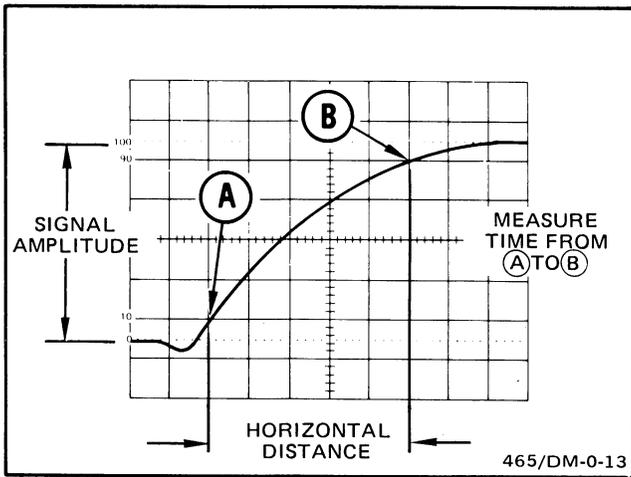

Figure 16. Rise time.
Rise-time measurements use the same methods as time duration, except that the measurements are made between the 10% and 90% points on the leading edge of the waveform (see Figure 16). Fall time is measured between the 90% and 10% points on the trailing edge of the waveform.
4. Adjust vertical positioning so that the zero reference of the waveform touches the 0% graticule line and the top of the waveform touches the 100% graticule line (see Figure 16).
6. Horizontally position the display so the 10% point on the waveform intersects the second vertical graticule line (see Figure 16, Point A).
**EXAMPLE:** The horizontal distance between the 10% and 90% points is 5 divisions (see Figure 16), and the A SEC/DIV switch is set to 1  $\mu\text{s}$ . The X10 magnifier knob is pushed in (1X magnification).